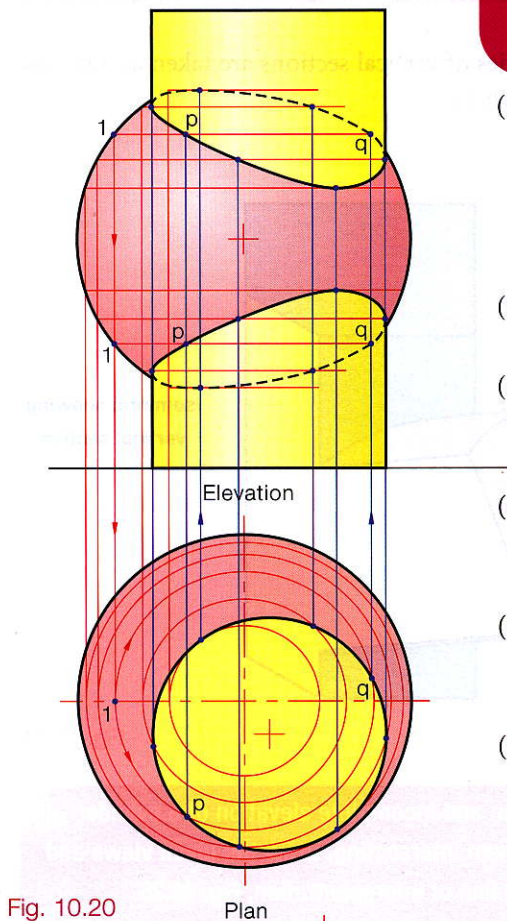

Fig. 10.20
- (1) A horizontal section through these two solids will produce two intersecting circles. Draw the plan which is complete and draw the partial elevation.
- (2) Take any horizontal section in elevation, e.g. at 1.
- (3) The section of the sphere is a circle in plan which intersects the plan of the cylinder at points p and q.
- (4) Project p and q onto the section line in elevation. Repeat for other sections.
- (5) It is worth noting that if the section lines are taken too high or too low the circles produced will not intersect.
- (6) The elevation is symmetrical about the horizontal axis, Fig. 10.20.